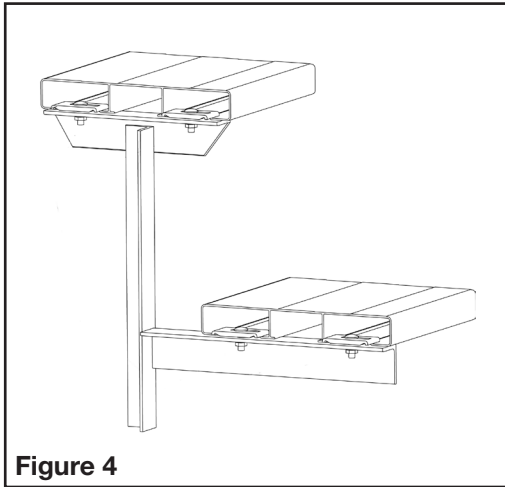

Figure 4
b. Make sure the tie down clip assemblies are saddled over the ribs on the bottom of the plank on both sides of each tie down clip assembly as indicated in Figure 4. Do not tighten the tie down clip assemblies until all foot deck and seat planks are in place and positioned properly over all frames.
g. Place seat plank on the top of each seat support bracket on rows 1 through 4 (if applicable) as indicated in Figure 4. Be sure to maintain proper overhang of 1'6" off of frame.